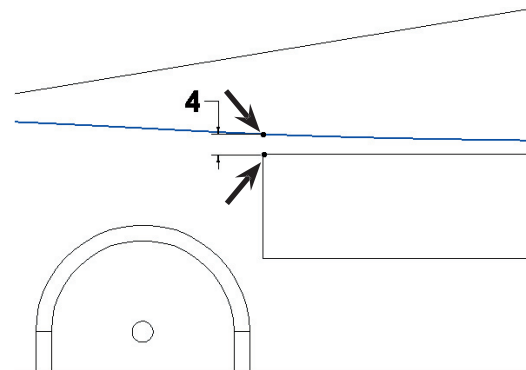

Fig. 25
Step 10. Click **Smart Dimension**  (S) on the Sketch toolbar.
Step 11. Add **dimension between 3rd spline point and cartridge cutout top front corner** as shown in **Fig. 25**. To Smart dimension click the spline point and the cartridge corner, then move the cursor up off the sketch and click. Key-in **4** for the dimension and press ENTER.